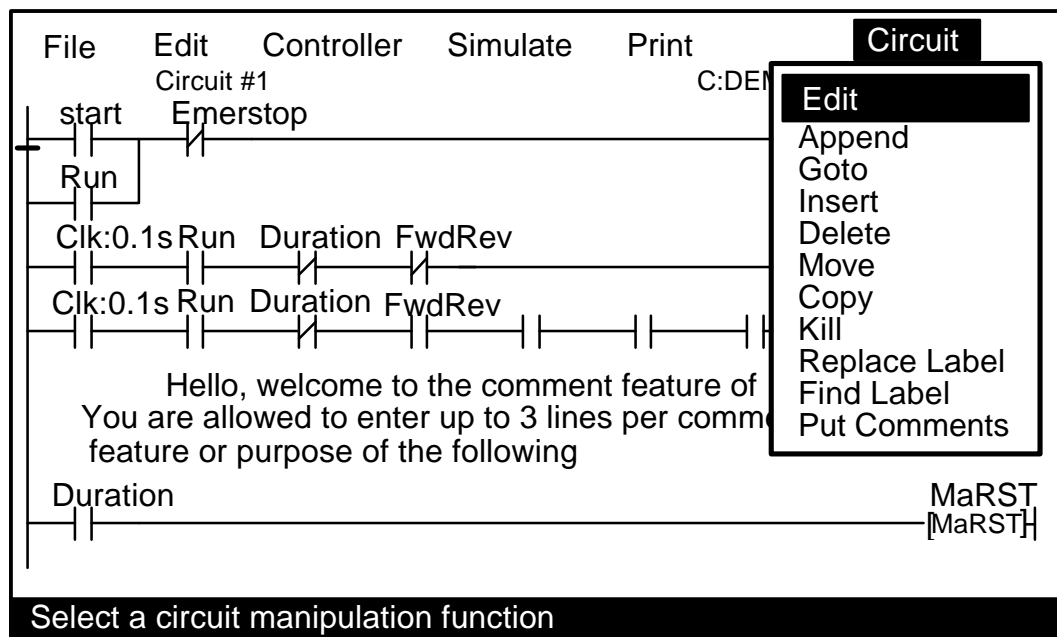

Figure 2.6
16. Once you are inside the logic editor, you might notice that an additional menu item, "Circuit", appears at the rightmost end of the main-menu bar. This is a "local" menu, meaning it can only be activated when you are in the logic editor. Let's open the "Circuit" menu by pressing the <Ins> key. See Figure 2.6.